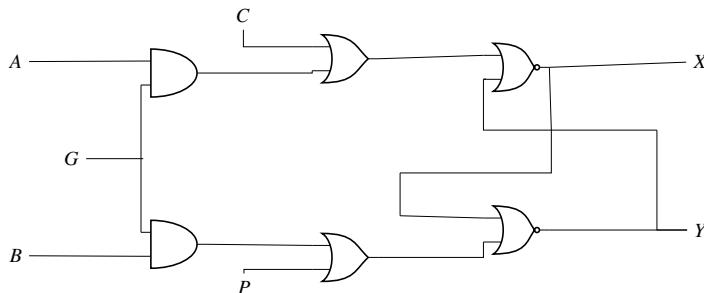

Fig. 3.35
51. For the following circuit Fig. 3.35, the correct logic values for the entries X_2 and Y_2 in the truth table in Table 3.8 are (PH2019,36)